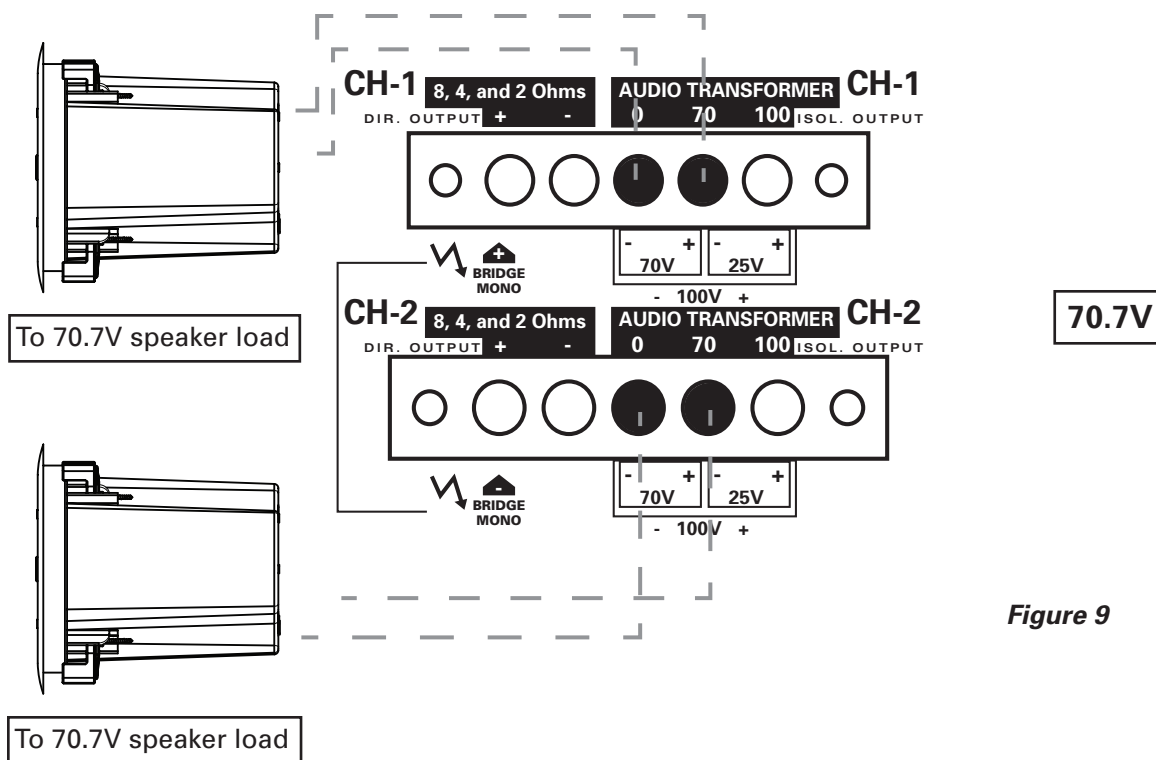

Figure 9
- **70.7V** - Connect the positive speaker lead to the terminal labeled "70" and the negative speaker lead to the terminal labeled "0" (Figure 9).